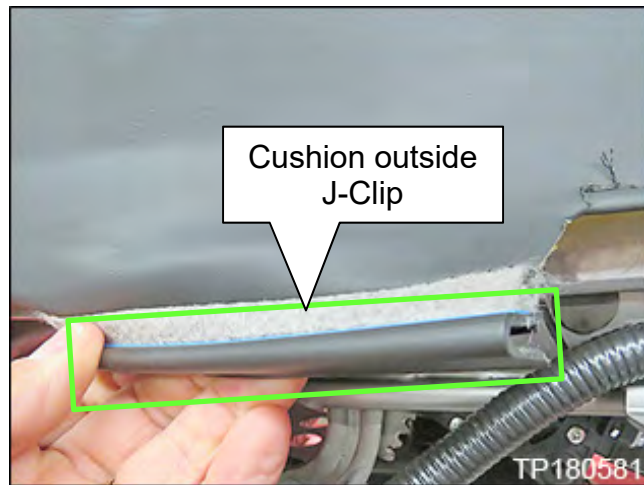

Figure 7
- Figure 7 shows cushion outside J-Clip detached.